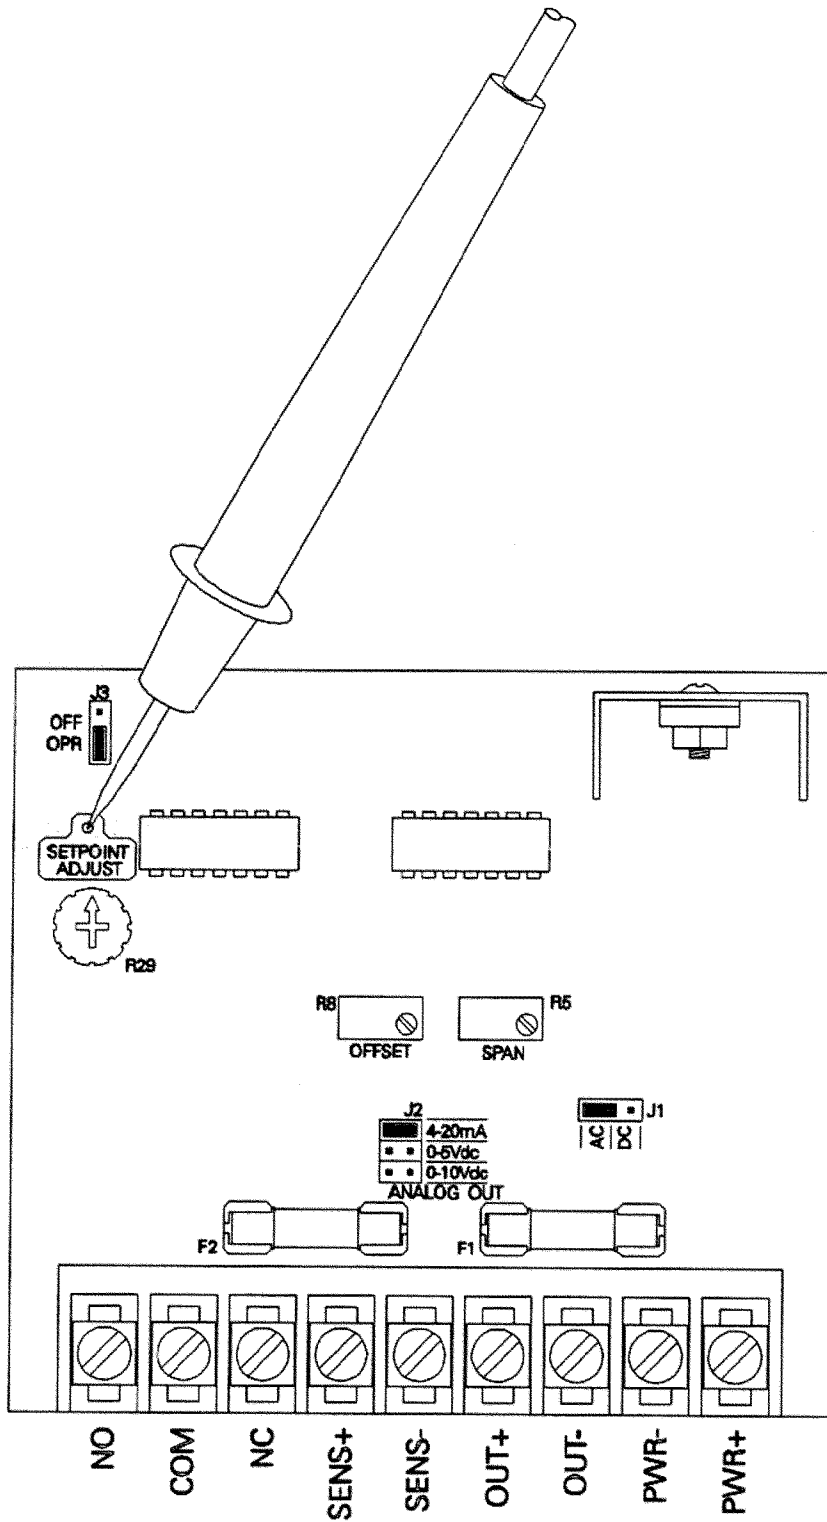

Figure 2
Step 1 - Place a voltmeter probe on the pad shown in Figure 2.